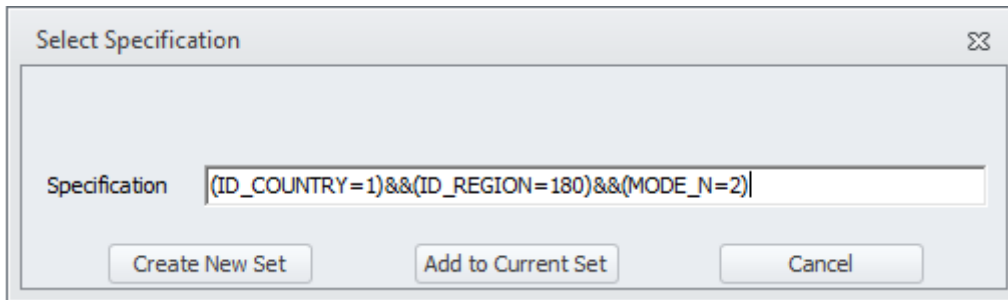

Figure 56 Select/view elements via SQL
- Select/view elements via SQL queries based on the attributes in the layers: On the menu bar, select Datasets -> Select by Attributes... and type an SQL syntax, for example all railway nodes in the Stockholm region, in a node layer, see Figure 56.